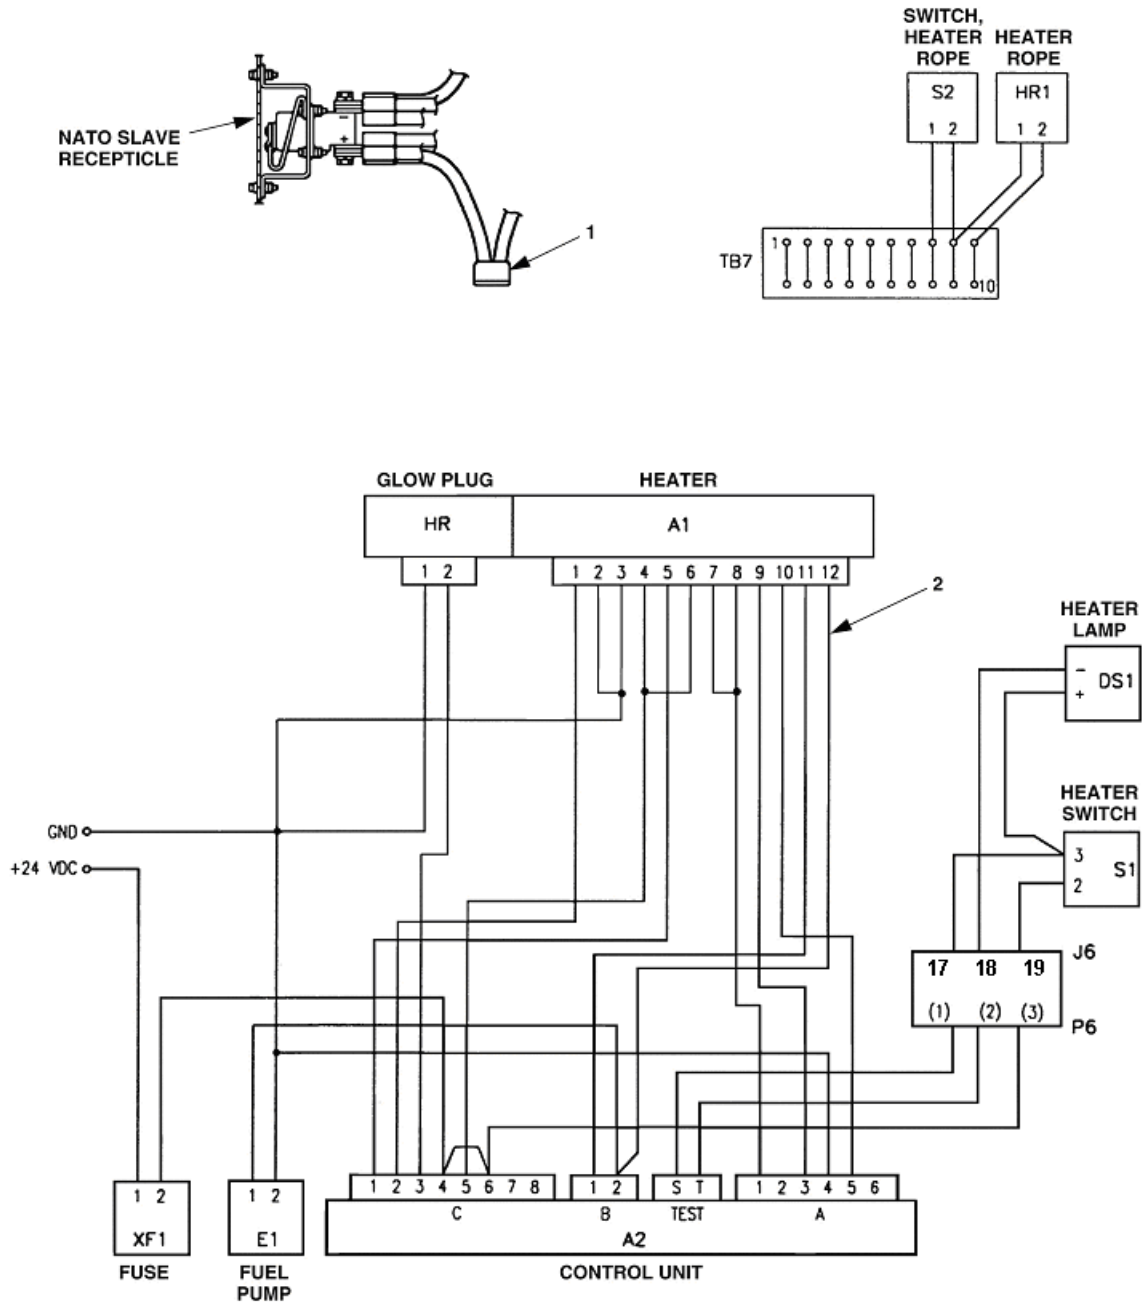

Figure 4-36. Wiring Harness Removal
- Using a pin removal tool, remove electrical leads from J6-17, 18, and 19 in accordance with wiring diagram, Figure 4-36.